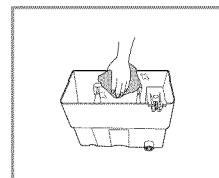

Fig.2
2. Pull the filter down and away from unit until it is all the way out. (Fig.2)